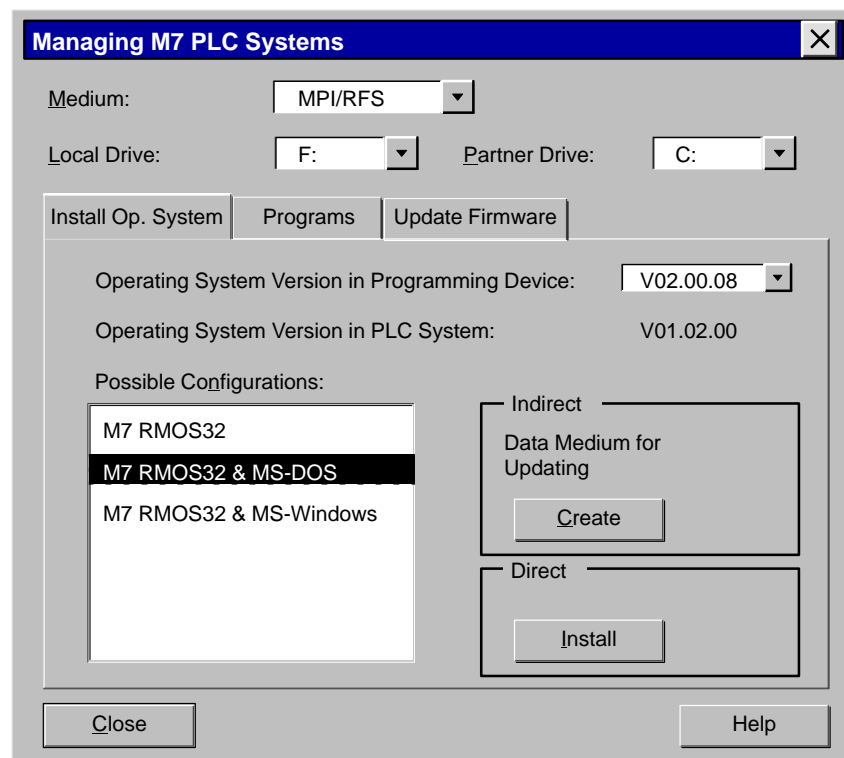

Figure 19-1 “Install Operating System” Tab
4. Select the following options (see Figure 19-1):